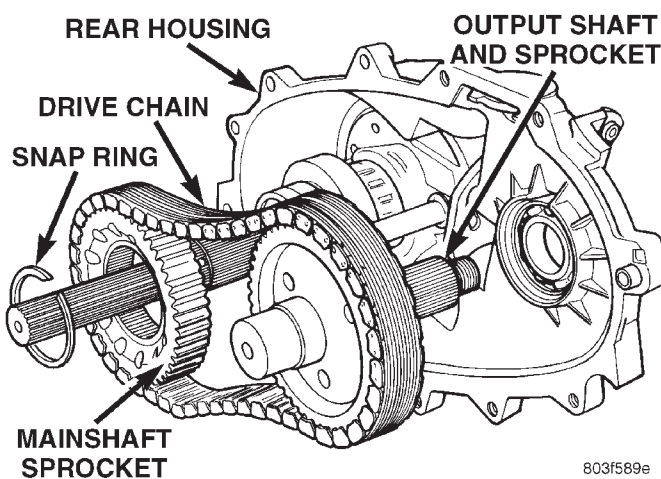

Fig. 37 Front Output Shaft, Drive Gear And Chain Removal
(19) Remove drive gear snap ring (Fig. 37).
(20) Disengage drive gear (Fig. 37). Pry gear upward and off mainshaft as shown.
(21) Remove front output shaft, drive chain and drive gear as assembly (Fig. 37).